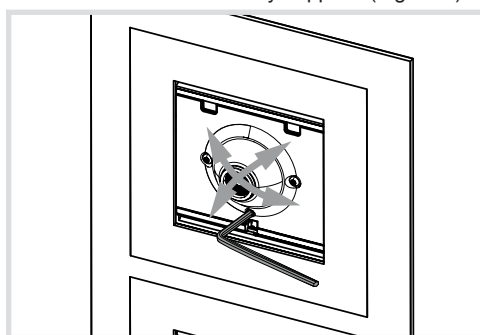

Figure 7: video module direction adjustment
(12) Opening for dismantling
- Loosen the locating screw (1) for the camera with the 1.5 mm Allen key supplied (Figure 7).